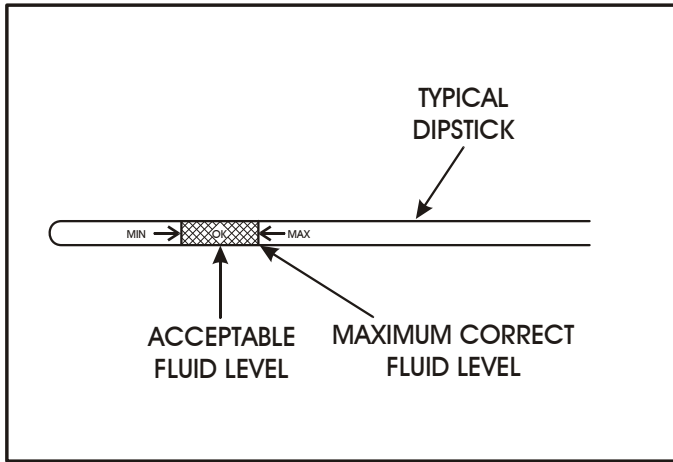

Figure 26
(7) If fluid level is low, add only enough of the Mopar® ATF Plus 3, Type 7176 to restore correct fluid level. Do not overfill (See Figure 26).